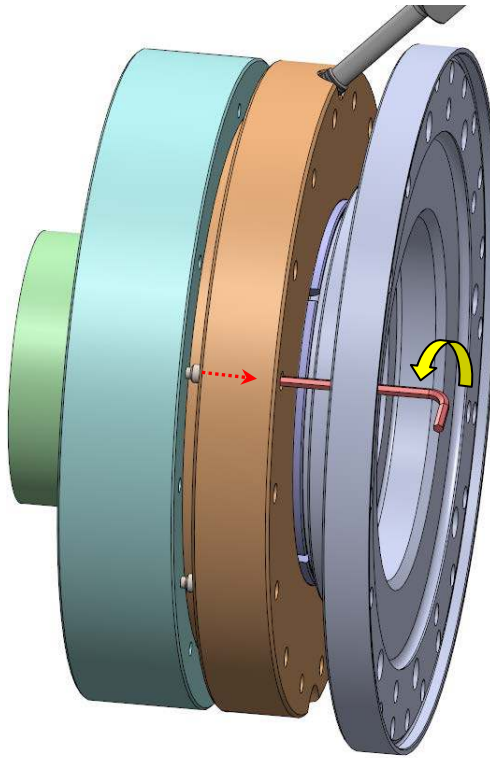

Figure 21 – Loosen Retention Screws While Pressure is Applied
6.4 Connect the hydraulic pump and slowly apply pressure while attempting to loosen one of the retention set screws by hand with a hex wrench. The retention set screws are accessed thru the face of the flange as shown in Figure 21. As soon as the screw is free to rotate stop the pump and hold the pressure.